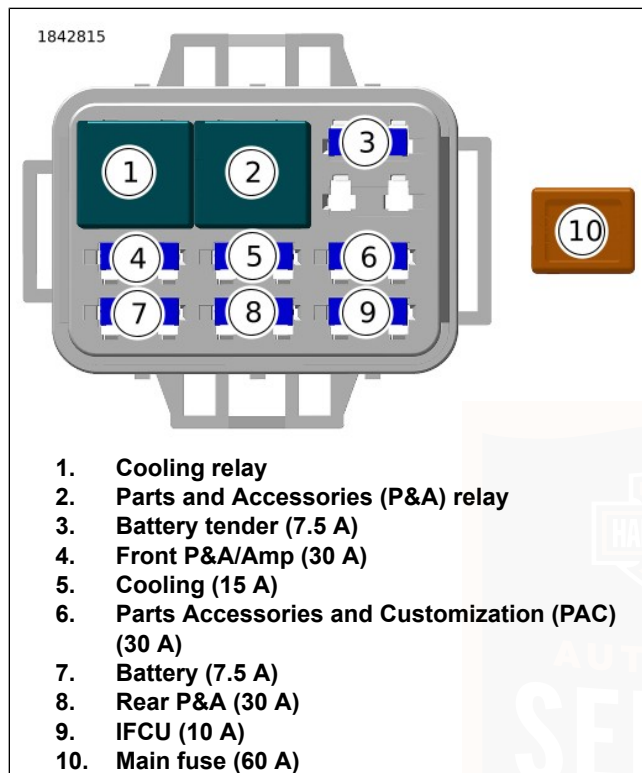

Figure 111. Fuses and Relays Identification
4. See Figure 111. Remove fuse and inspect the element.